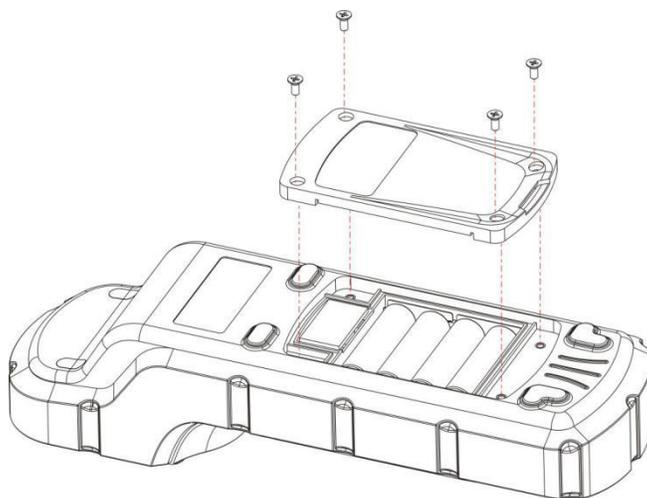

Figure 4 Replace Batteries
The SP-910 battery compartment, shown in Figure 4 is on the back side of the instrument. Insert a small pad underneath the screen area to make the back-surface level when the instrument is turned upside down. Install batteries as followings:
2. Insert four batteries into the battery holder as shown in Figure 4. Make sure the positive battery polarity marker (+) is aligned with the positive marker (+) on the battery holder.